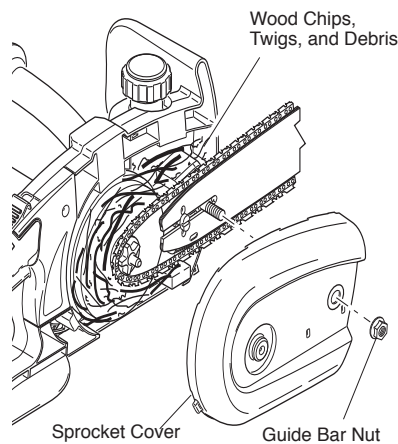

Figure 10 - Removing and Clearing Sprocket Cover of Debris
2. Loosen and remove guide bar nut (see Figure 10).